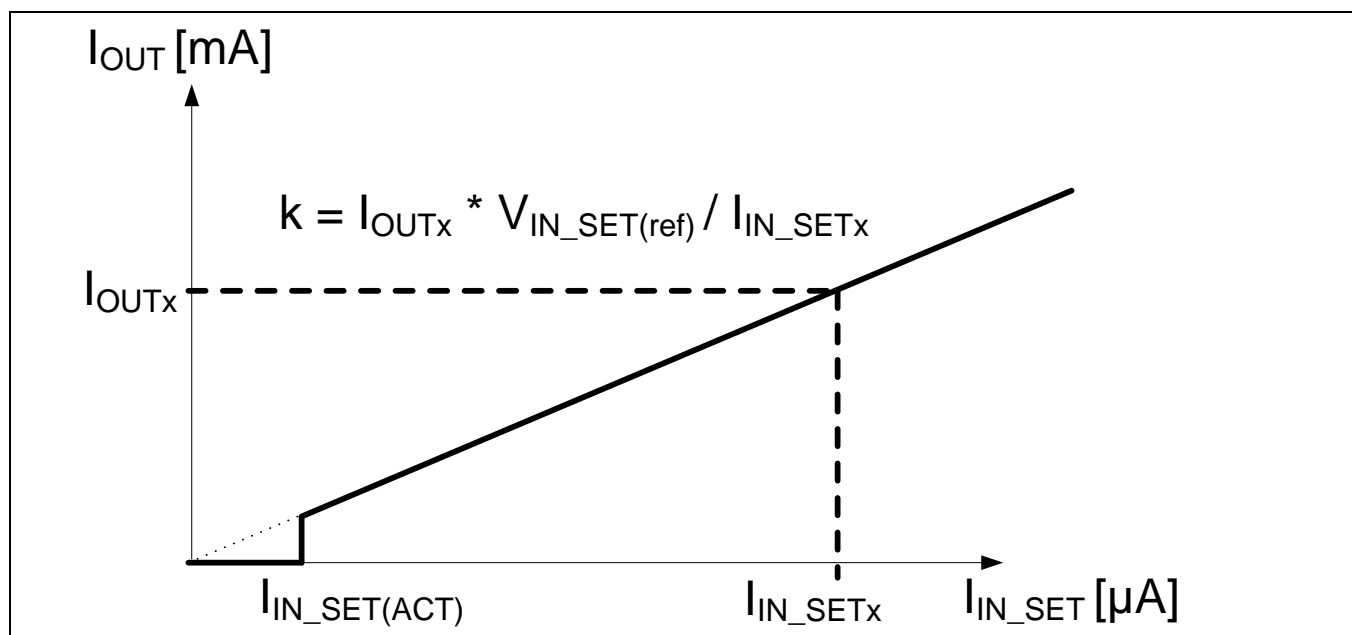

Figure 9 I_{OUT} vs. I_{IN_SET}
- The IN_SET pin sets the output current level (all devices) – See figure 9 below